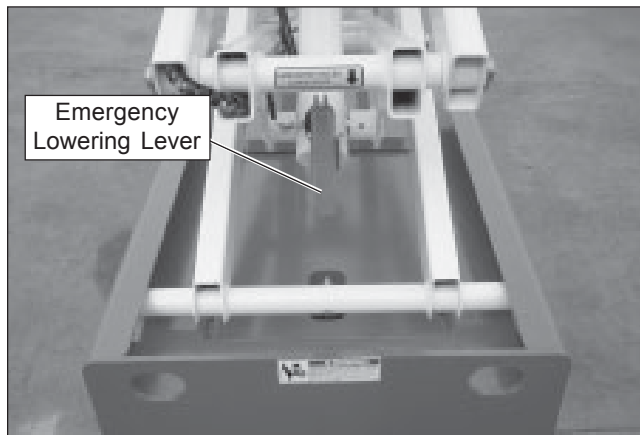

Figure 11.1 – Front of Chassis
2. Locate the emergency lowering lever at the front of the aerial platform (refer to Figure 11.1).